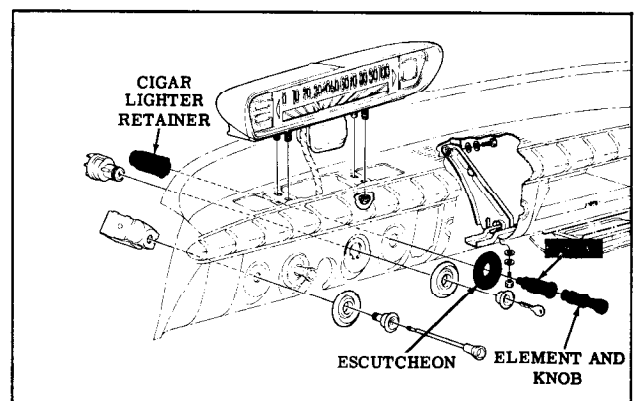

Fig. 12-11 Cigar Lighter
2. Disconnect fuse holder on back of lighter. (Fig. 12-11)